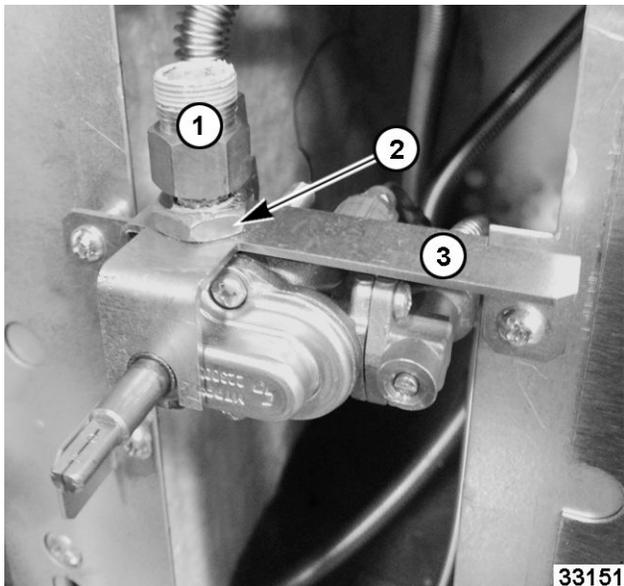

Fig. 93
5. Remove fitting (1, Fig. 93), retaining nut (2, Fig. 93) and pull assembly off bracket (3, Fig. 93)